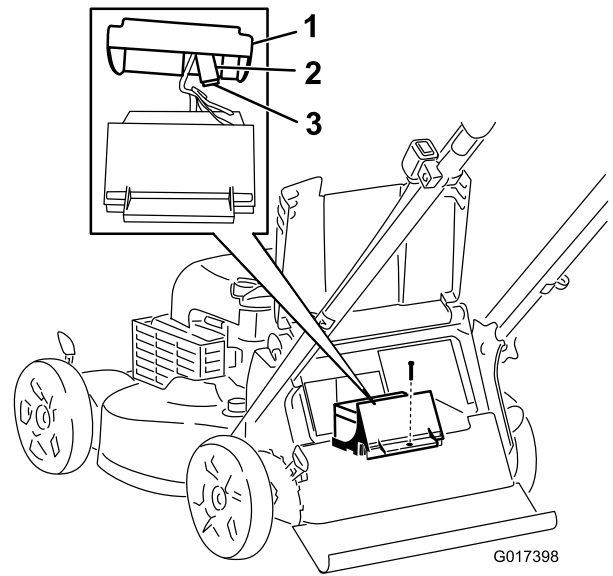

Figure 31
3. Remove the screw that secures the battery compartment, pull out the battery, and locate the fuse (Figure 31).
4. Replace the fuse in the fuse holder (Figure 31).